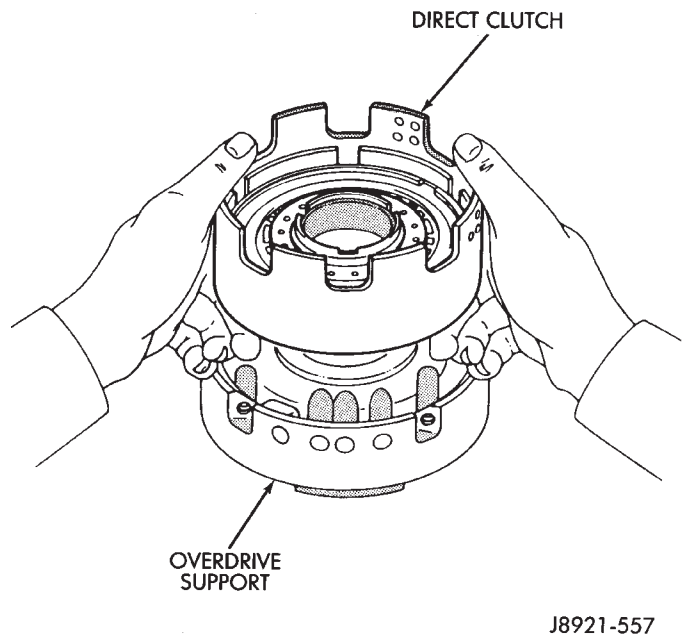

Fig. 3 Mount Direct Clutch On Overdrive Support
(3) Check clutch piston stroke length as outlined in following steps.
(4) Mount direct clutch on overdrive support assembly (Fig. 3).